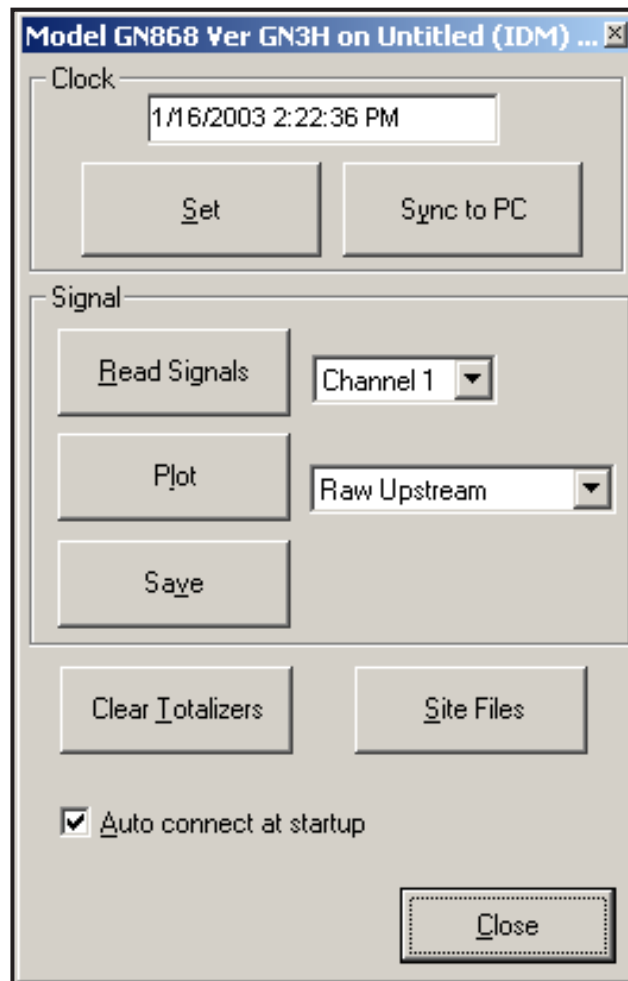

Figure 28: Active Signal Options in Properties Window
1. Click on the *Read Signals* button. (If the meter is a multi-channel instrument, open the Channel drop-down menu and click on the desired channel.) After a moment, the *Properties* window appears similar to Figure 28.